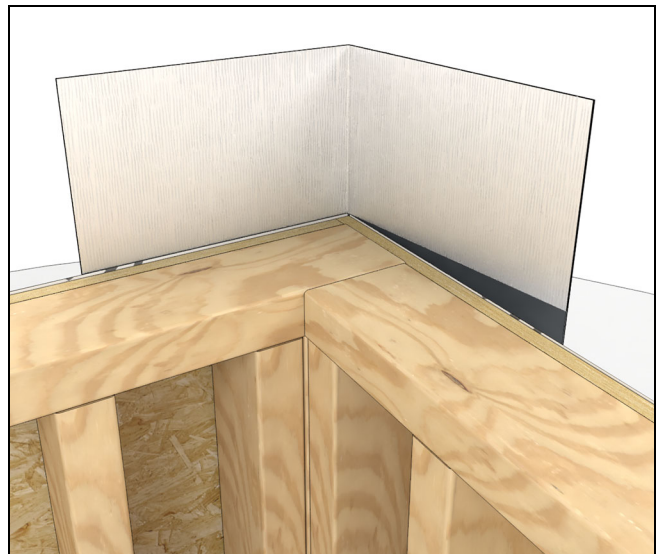

Figure 16
5. Center the material on the corner and adhere to the outside face of the building at the sill. See Figure 16.